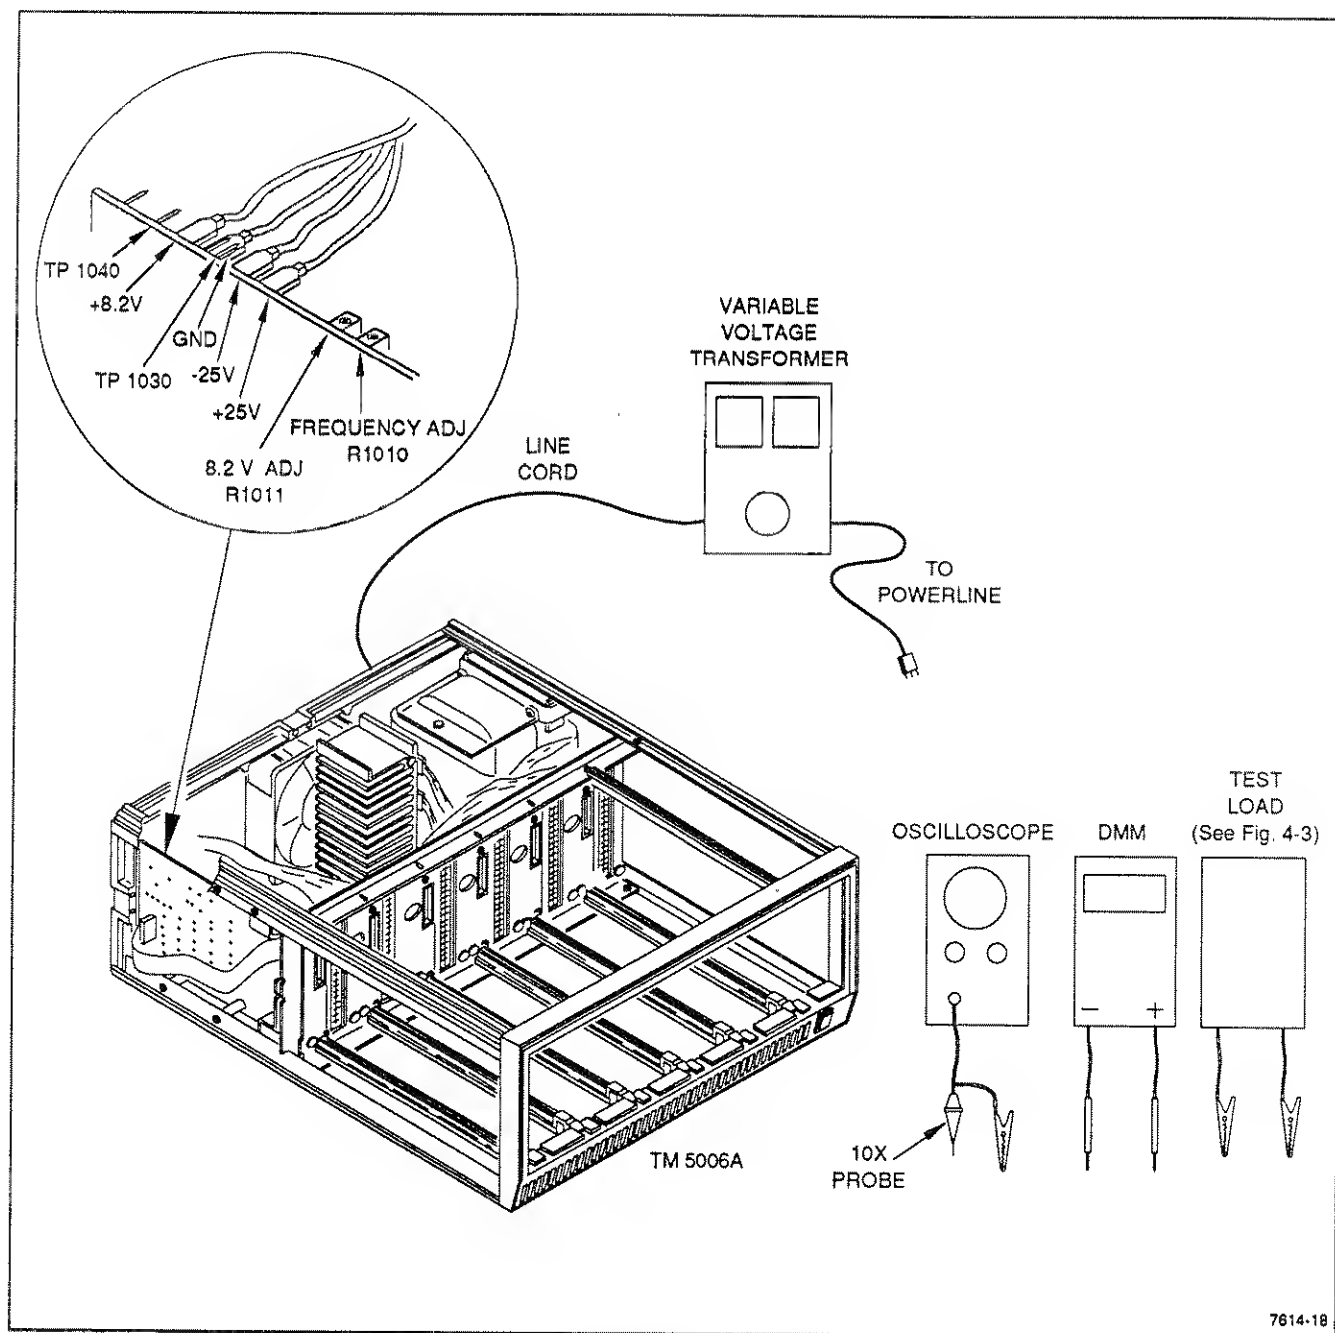

Fig. 4-4. Internal adjustment setup.
Remove the top cover to gain access to the supply buses and the adjustments. Figure 4-4 shows the adjustment locations.
- Connect the DMM to the +8.2 and ground terminals shown in Figure 4-4.